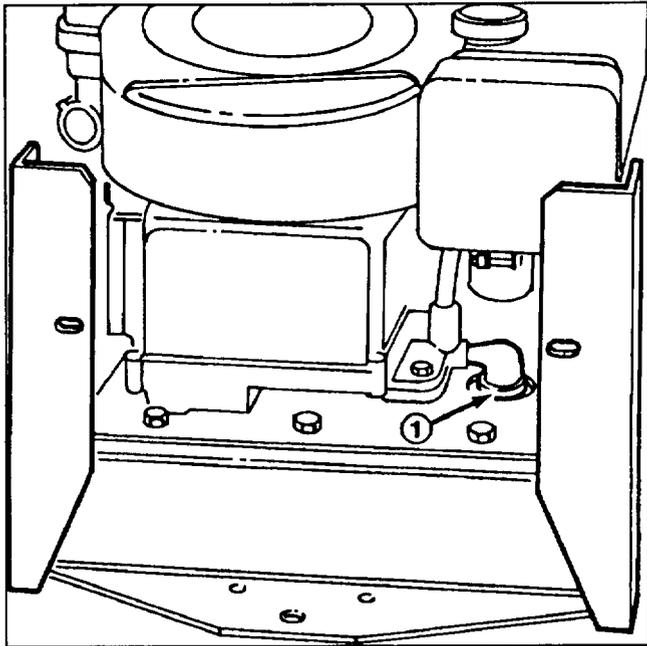

Figure 15
- B. Turn engine off and place drain pan below drain plug (Fig. 15). Support drain pipe with pipe wrench, remove drain plug, and allow all oil to flow into drain pan. Install drain plug after oil stops flowing.
Note: To ease removal of drain plug, use a 3/8" drive extension with the square drive socket over the plug and turn with a crescent wrench (Fig. 15, Insert).